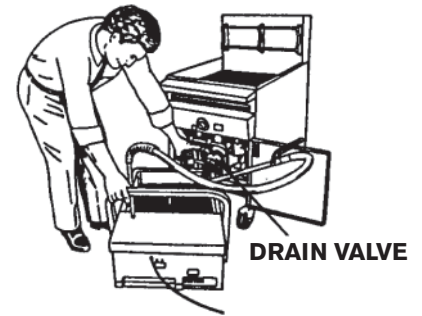

Figure 2-2
5. For a period not to exceed twenty minutes, direct wand to flush all crumbs and other residue out of fryer vessel and from splashdeck into filter vessel (Figure 2-2). Operating the motor-pump for more than twenty minutes may overheat the motor, tripping the motor internal overload switch. If this occurs, it will be necessary to permit the motor to cool down for five to ten minutes and then press the reset switch at the rear of the motor. The reset switch is accessible through the button plug opening at the right side of the filter.